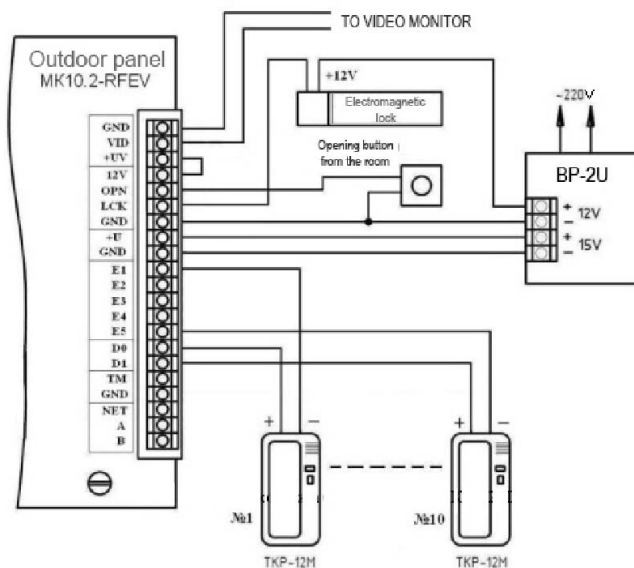

Fig. 2 Example of mounting the outdoor panel MK10.2-TMV
5. Install the wiring. Make taps from the loops and connect the TKP of all the subscribers. (Figure 2)
- A) Change the access code to the programming mode and, if necessary, program the master RF (MF) key. Be careful when entering the code. WRITE MASTER CODE!
- C) Program subscriber RF (MF) -keys.
- D) If the doorphone will be used on the network, it is necessary to enter the number of the first subscriber, the network number (from 1 to 16), the number of subscribers served (see section 7.3). Attention! If the first subscriber number is entered different from "1", then the offset of the subscriber numbers must be taken into account when setting the next parameters. As the Master doorphone, the outdoor panel MK2003.2-RFE (V) N can be used.
- NOTE: Items a ... g can be pre-made using a personal computer. In this case, the prepared information is transferred to the outdoor panel memory via the METAKOM MKA-02U adapter and the TM-key DS1996 (L).